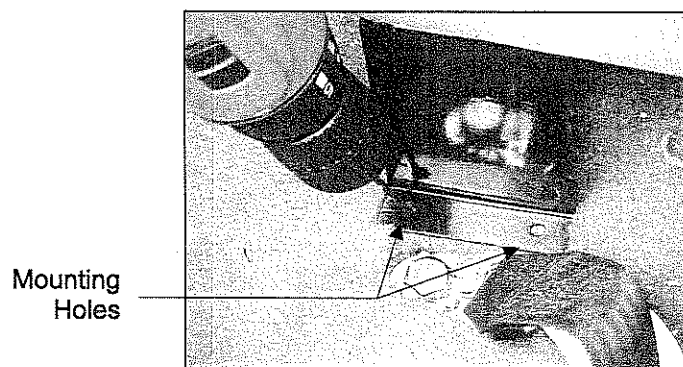

Figure 6
9. Locate the (4) mounting holes on the Mounting Bracket.
10. Using the mounting holes as a drilling guide, drill (4) holes through the floor of the vehicle using 1/8" drill bit (Figure 6).